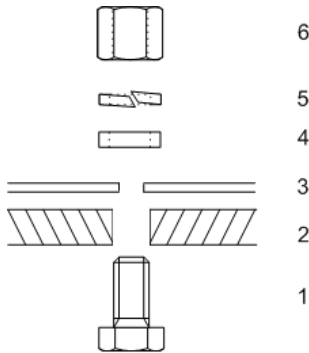

Figure 10: Mounting the TPCC Using Clearance Holes
2. Insert and lightly tighten the screws (1), washers (4), spring rings (5) and nuts (6), as shown in Figure 10 (2=Mounting area, 3=Clamping and alignment bracket). Please note that the mounting components are not included and must be ordered separately.